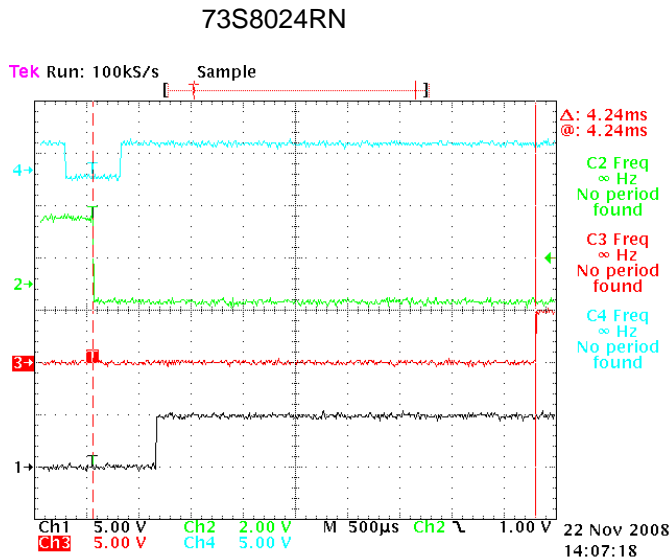
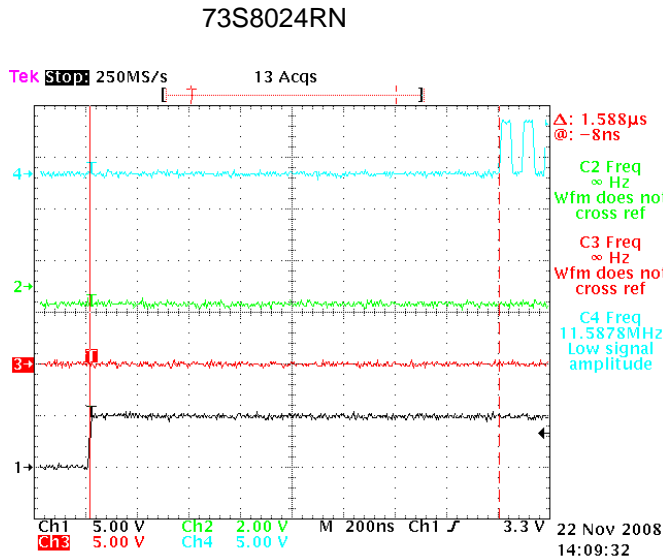

Figure 8: 73S8024RN, Case 1, Legend A
Figure 12: 73S8024RN, Case 1, Legend B Zoom
- Case 1: RSTIN is low before T0 and goes high before T1. See Figure 8 through Figure 12.